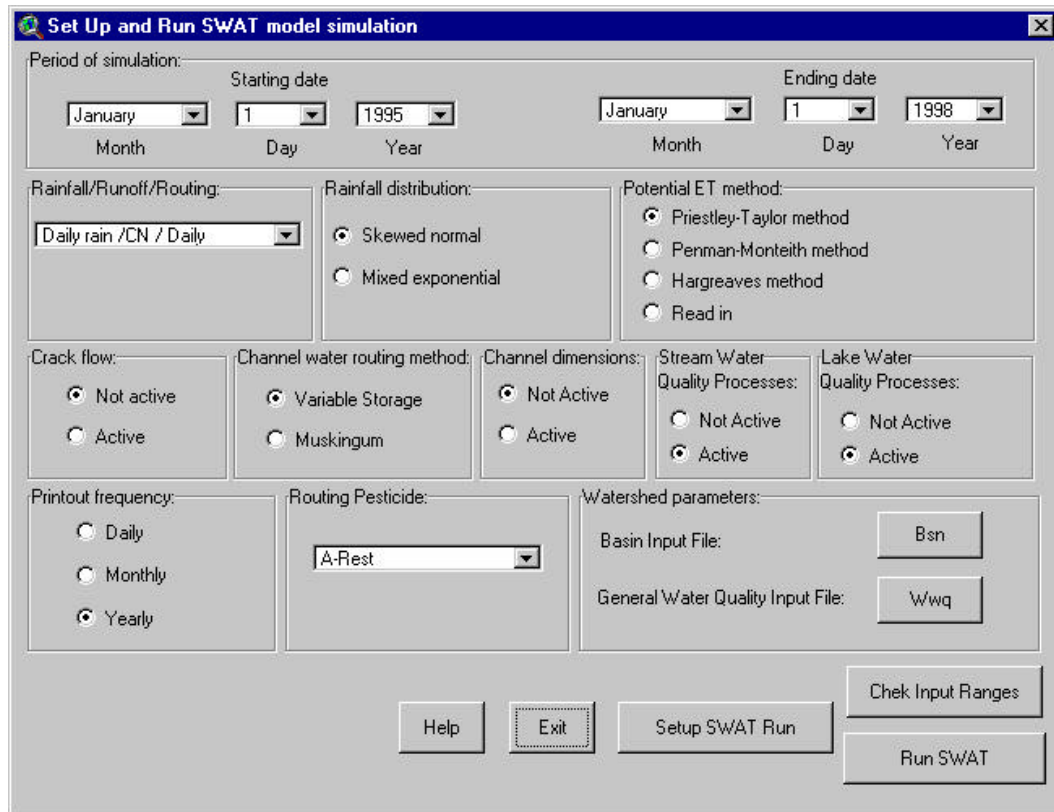

Figure 13.25
7. Once the Setup of the SWAT input files is complete, two additional buttons are displayed on the Set Up and Run SWAT model Simulation dialog box (Figure 13.25).